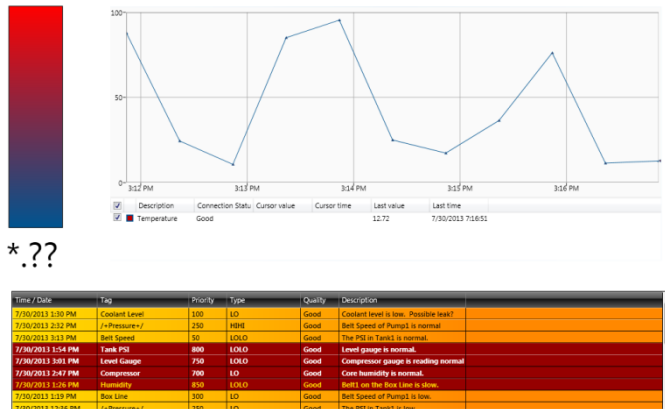

Figure 15 - Display with TrendWorX64 and AlarmWorX64 Viewers
29. Your display should now look similar to Figure 15.